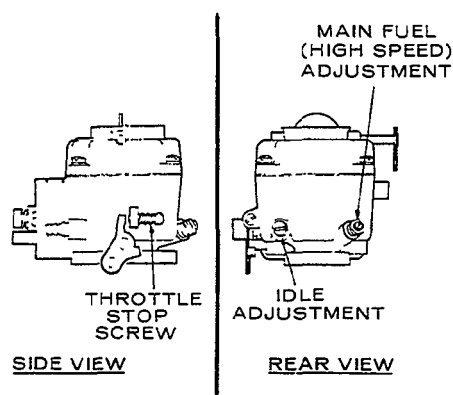
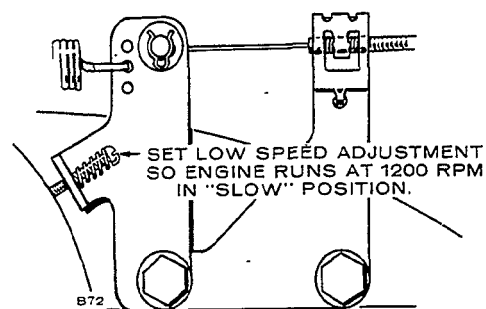

FIGURE 7. MAIN FUEL AND IDLE VALVE ADJUSTMENT
FIGURE 8. LOW SPEED ADJUSTMENT
The carburetor has a main fuel valve adjusting screw and an idle valve adjusting screw (Figure 7). A low speed adjustment screw is shown in Figure 8.
2. Hold engine at idle position and set low speed adjustment screw (Figure 8) until a fast idle is obtained (1200 rpm).